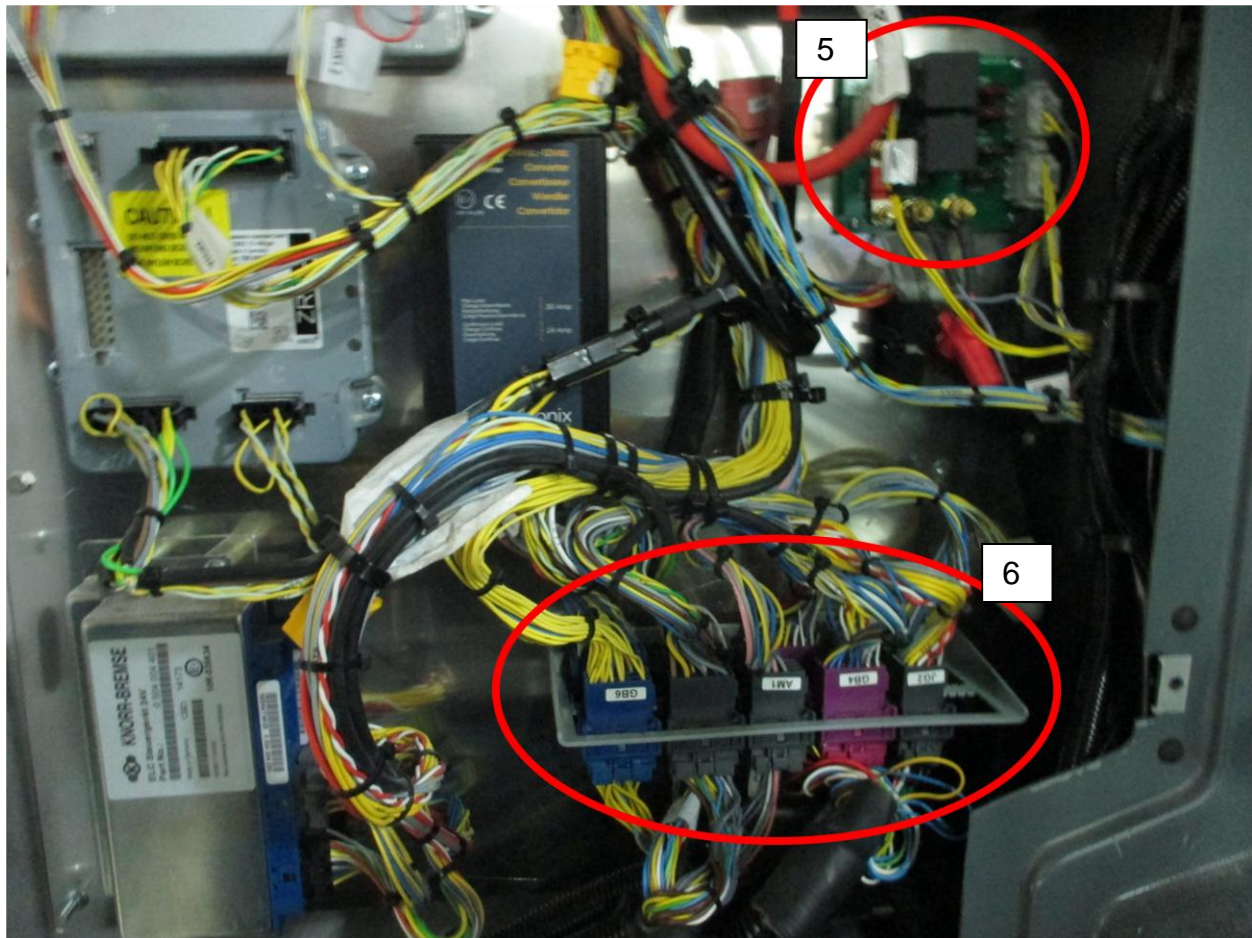

Figure 4: Connection points.
- a. From floor heater PCB board, remove connectors CN1, CN2, CN3, and C1075A, C1075B, C1075C. Refer to Figure 4 item 5.
- b. From JPT Connector housing bracket, remove all connectors. Refer to Figure 4 item 6.